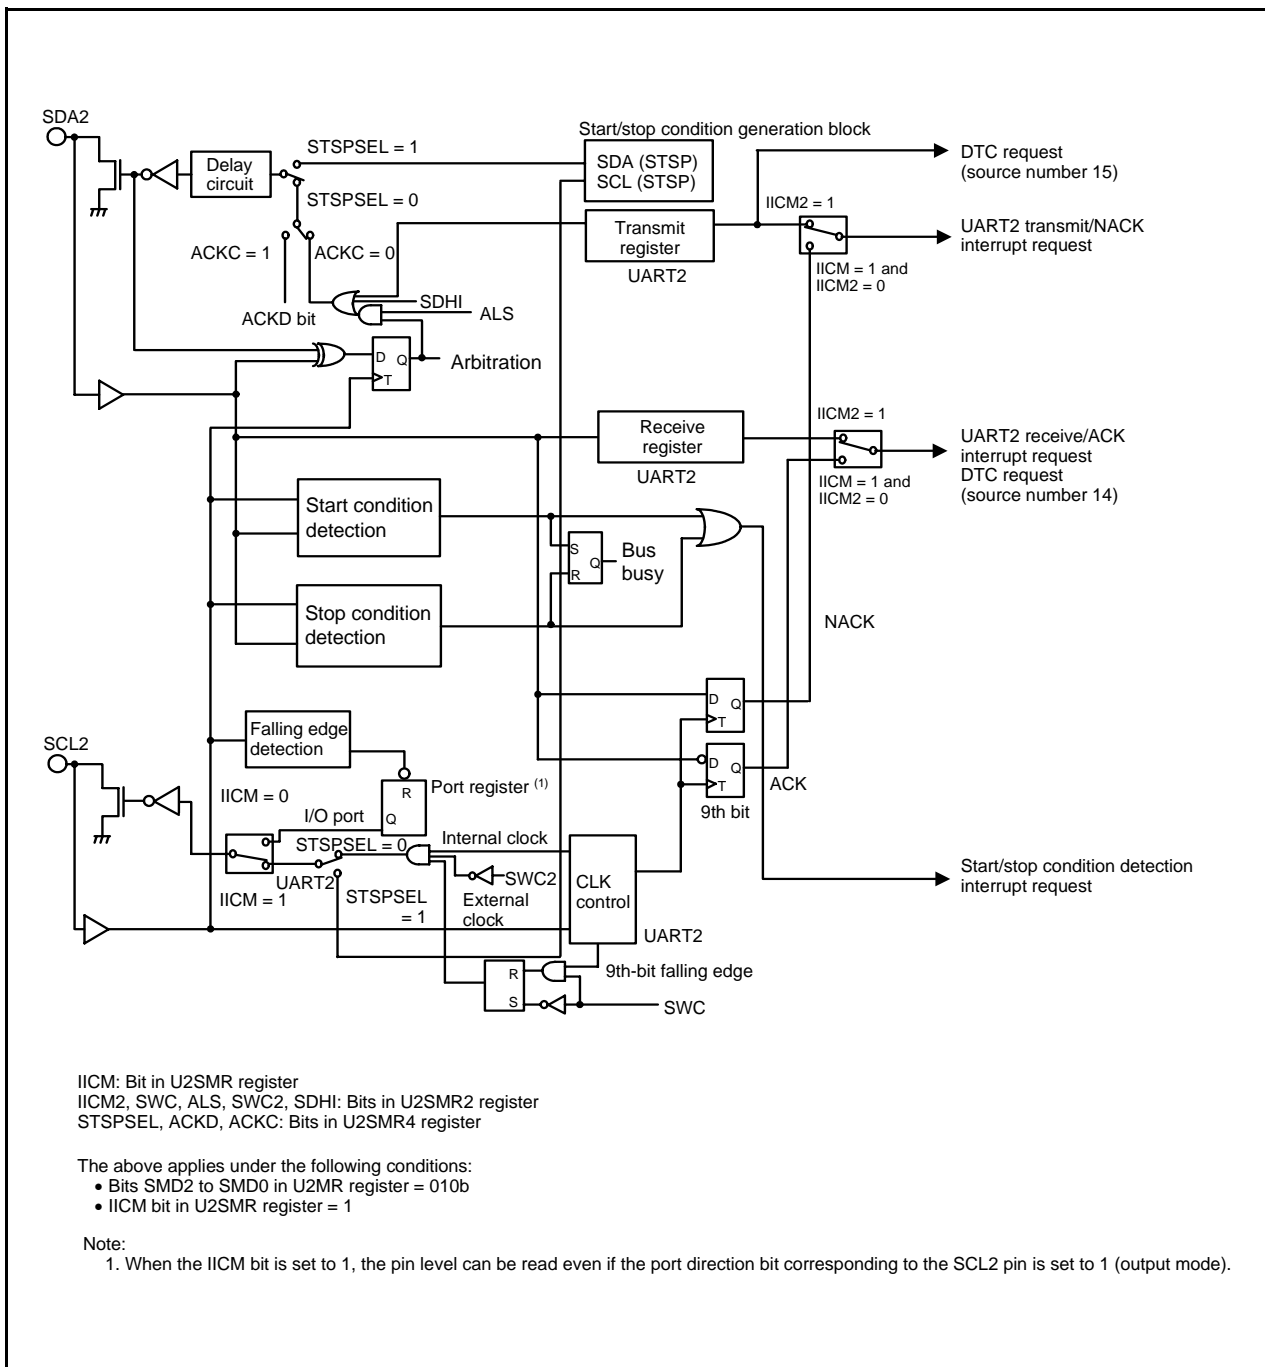
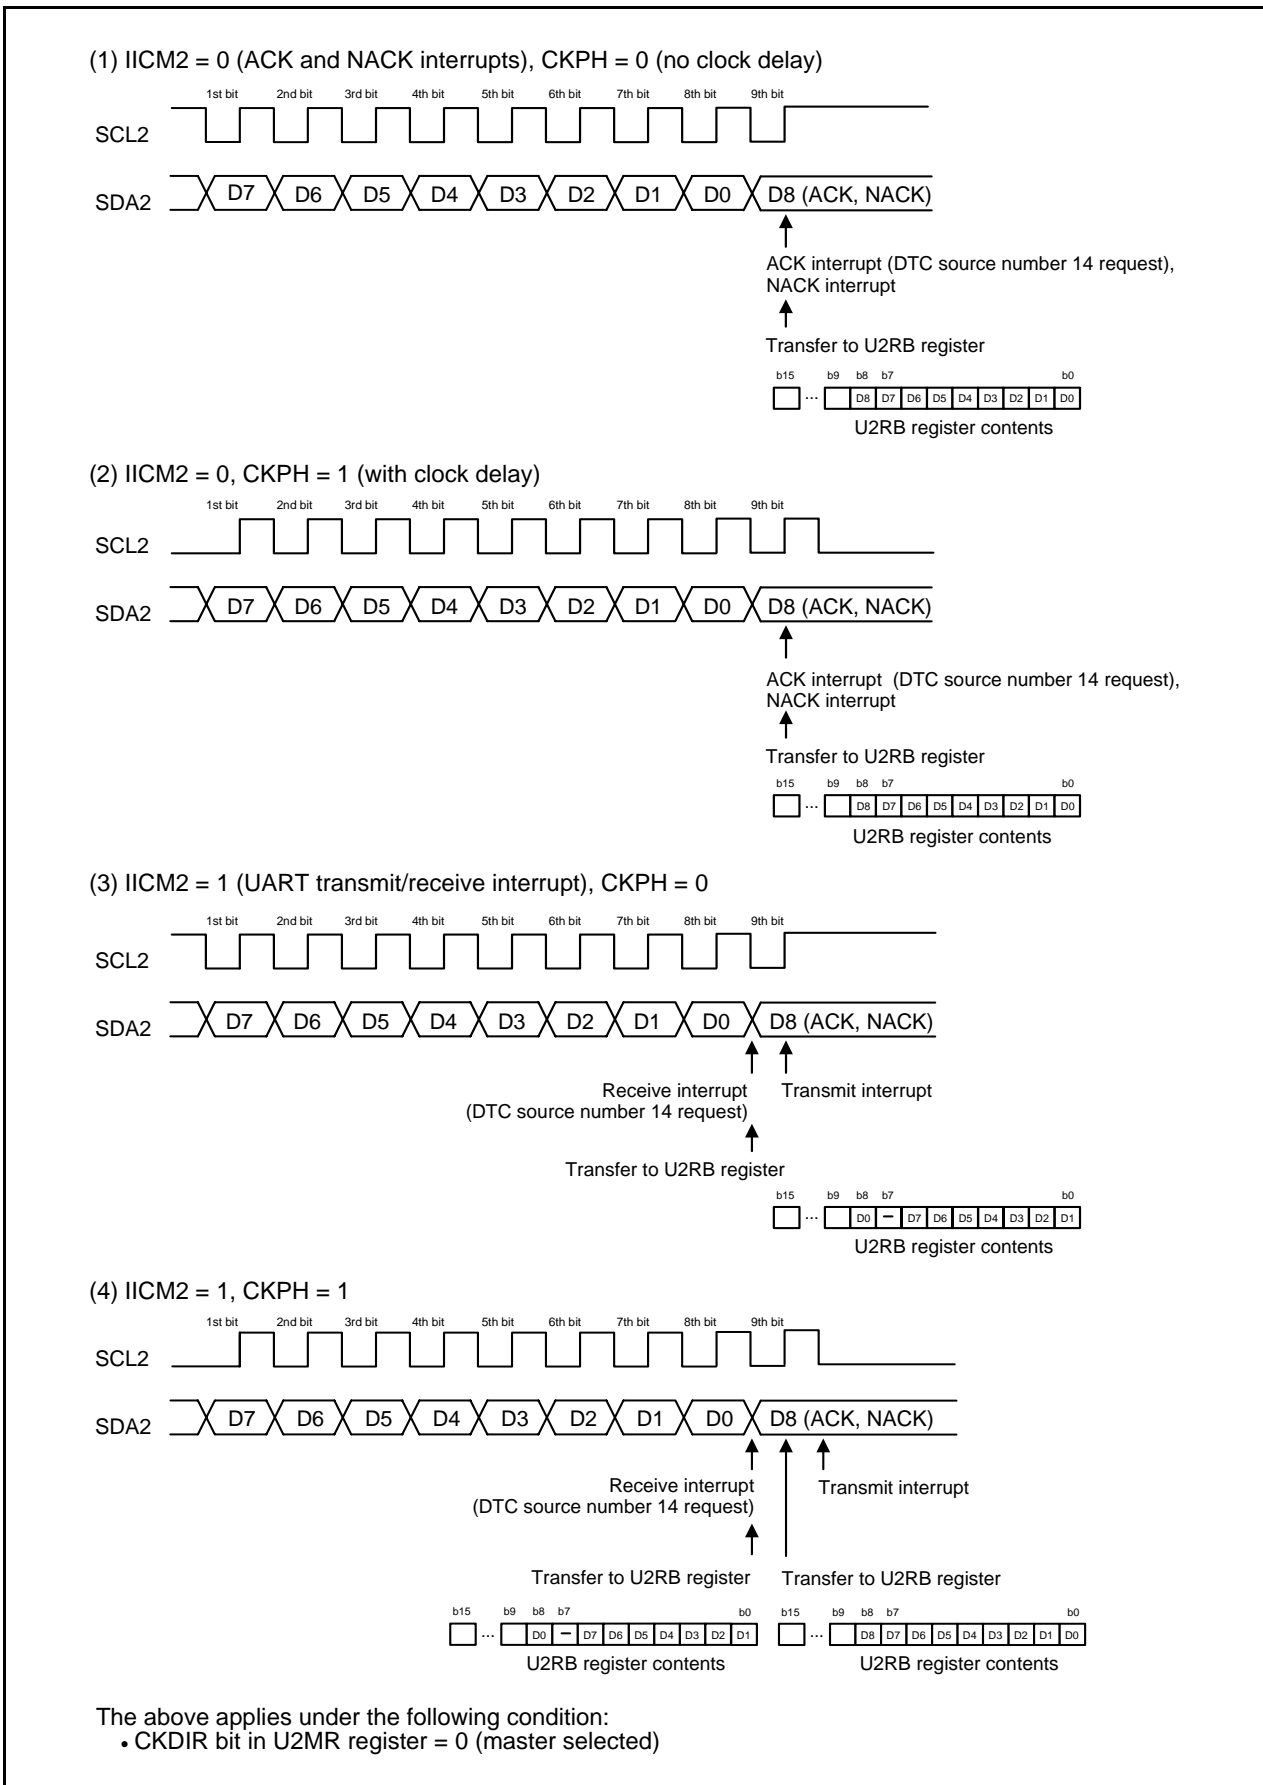

Figure 25.13 Block Diagram of I2C Mode
Figure 25.14 Transfer to U2RB Register and Interrupt Timing
I2C mode is provided for use as a simplified I2C interface compatible mode. Table 25.9 lists the I2C Mode Specifications. Tables 25.10 and 25.11 list the registers used in I2C mode and the settings. Table 25.12 lists the I2C Mode Functions, Figure 25.13 shows a Block Diagram of I2C Mode, and Figure 25.14 shows the Transfer to U2RB Register and Interrupt Timing.
6. Refer to **Figure 25.14 Transfer to U2RB Register and Interrupt Timing**.
The transfer clock is used to transmit and receive data as is shown in **Figure 25.14 Transfer to U2RB Register and Interrupt Timing**.